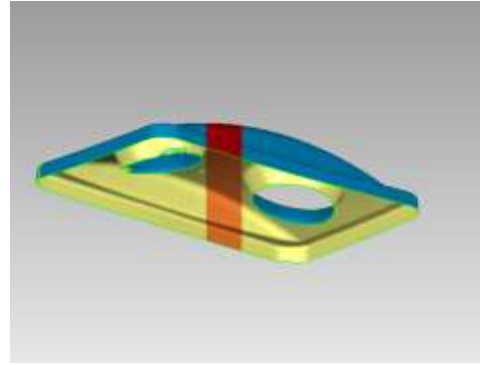

Figure 7 – Select Backfaces Mode: ON
12. Make the selection with your cursor as shown in **Figure 7**.